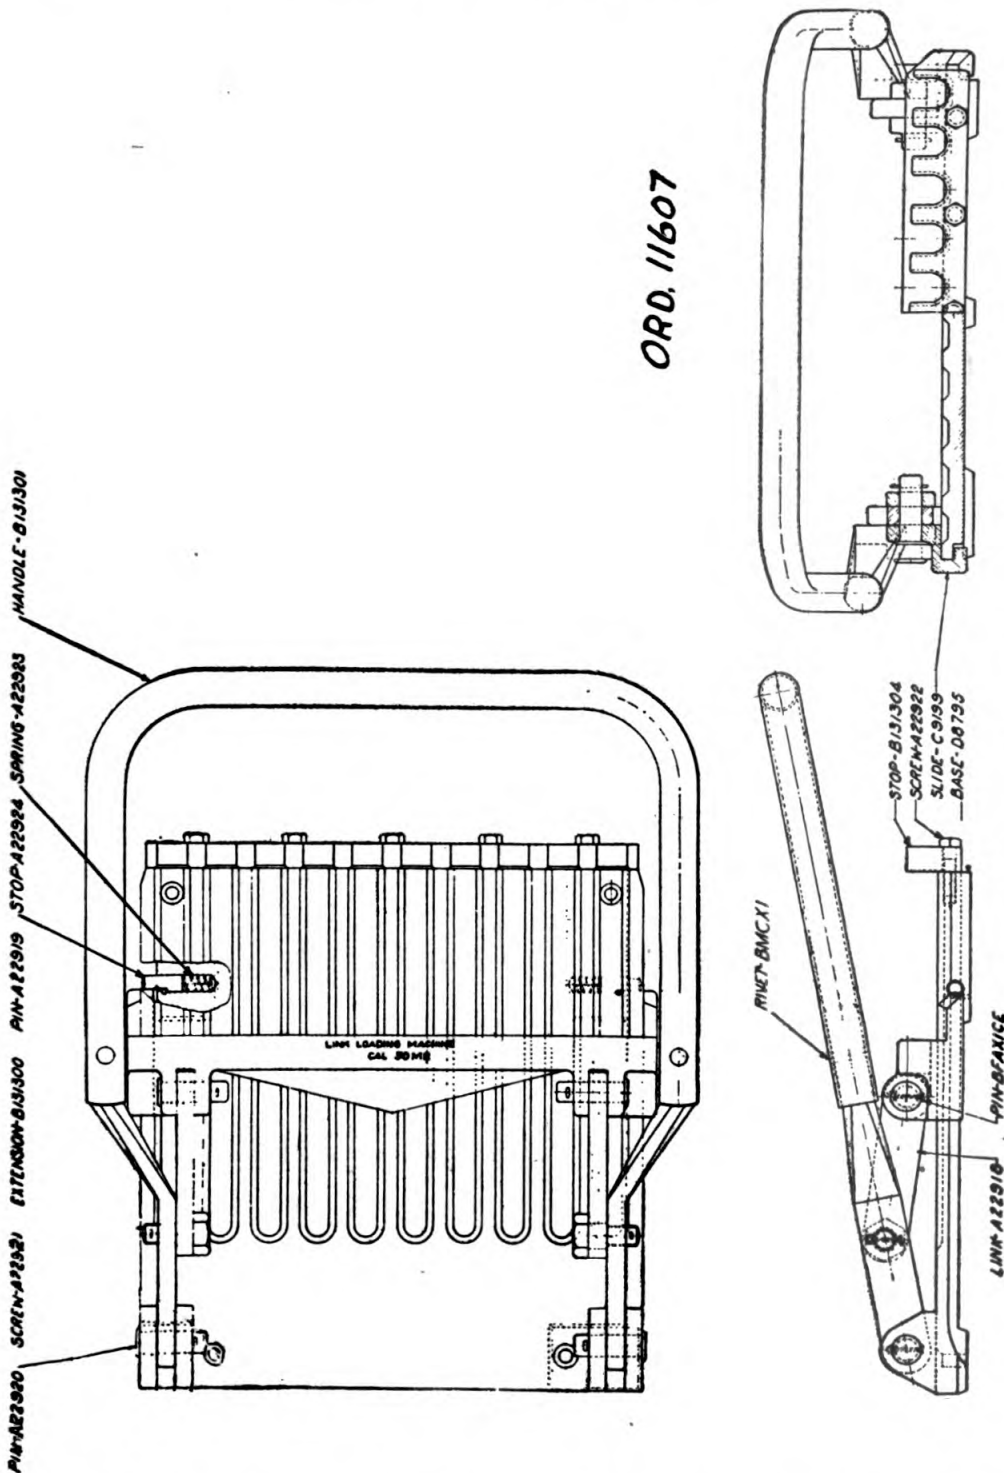

FIGURE 140.—Machine, link loading, caliber .50, M2.
*e. Machine, link loading, caliber .50, M2.*—The link loading machine (fig. 140) is used for rapid loading of ammunition into metallic links. It may be screwed to a bench, ammunition box, or other suitable support when in use, screw holes being provided in its base for this purpose. Links, properly assembled, are placed on the loading bed adjacent to the U-shaped stops, and cartridges are placed in the grooves provided. The loading is performed by the operation of the loading handle which, when pushed forward to the stop, will load the cartridges